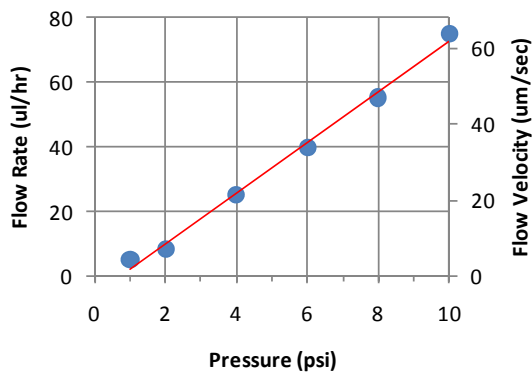
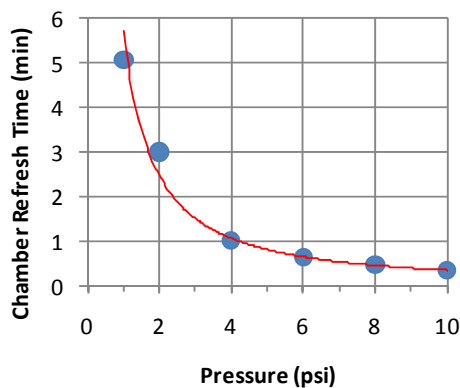

Figure 5. Flow Rate and Chamber Flow Velocity
Figure 6. Total Chamber Switch Time
- Flow properties are given in Figures 5 and 6. Figure 5 shows the total flow rate out of each inlet well. The 2nd y-axis, flow velocity, is of the laminar front moving through the chamber, or the local switch rate for cells in the chamber. Figure 6 gives the time for the laminar front to move through the entire chamber. If more than one channel is open at a time, multiply the flow rate/velocity by the number of open channels. Note: flow of liquid from wells 1 or 6 are roughly 100x faster than wells 2-5.
- For extremely fast washing, utilize the gravity flow well (column 1). Replace the liquid in column 1 with the desired switching solution. Flow 1 at the desired pressure. The switch time will be ~100x faster than listed in Figure 6. For example, at 2 psi, the chamber will be replaced in approximately 2 seconds (~20 ul/min). Make sure not to flow well 8 for extended periods of time in order to avoid emptying the well and introducing air bubbles.